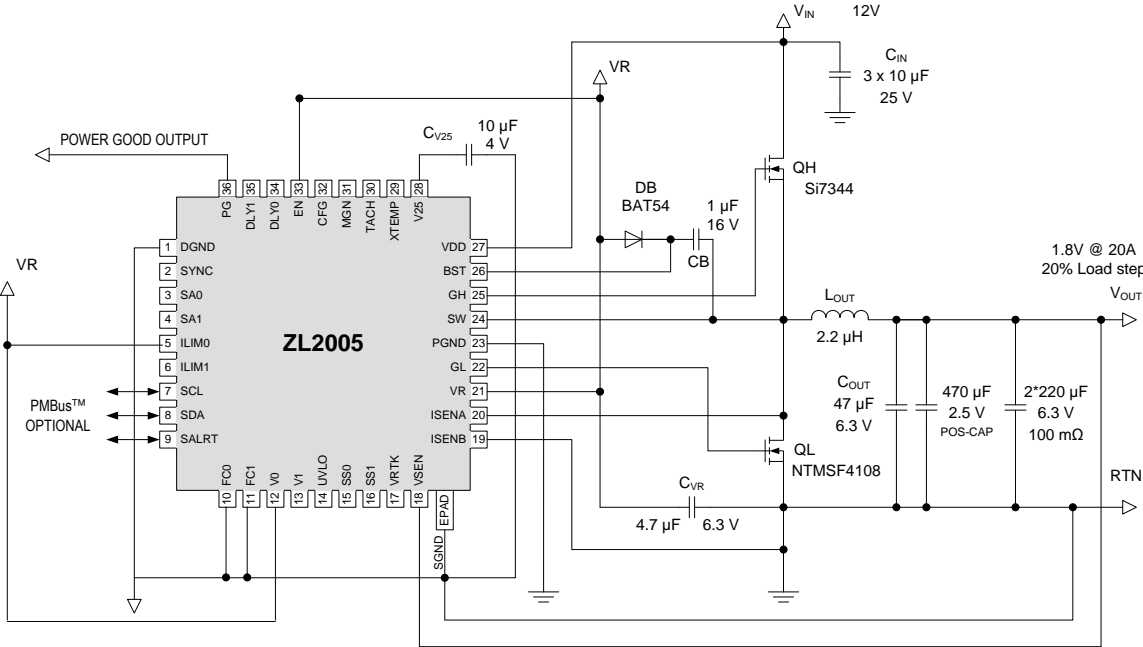

Figure 3. Typical Application Circuit
When the output voltage crosses the high side threshold, the high side MOSFET (QH in Figure 3) is immediately turned on, and the low side MOSFET (QL) is turned off. This immediate change to the state of a MOSFET is referred to as a “correction”. Since a high side threshold corresponds to an on-time correction to the high side MOSFET, the high side threshold is below the output voltage. Likewise, the low side threshold can be set from 0.5% to 4.0% above the nominal output voltage in 0.5% steps, and is independent of the setting of the high side threshold. In a similar fashion, if the low side threshold is exceeded, the low side MOSFET is immediately turned-on and the high side MOSFET is turned off.